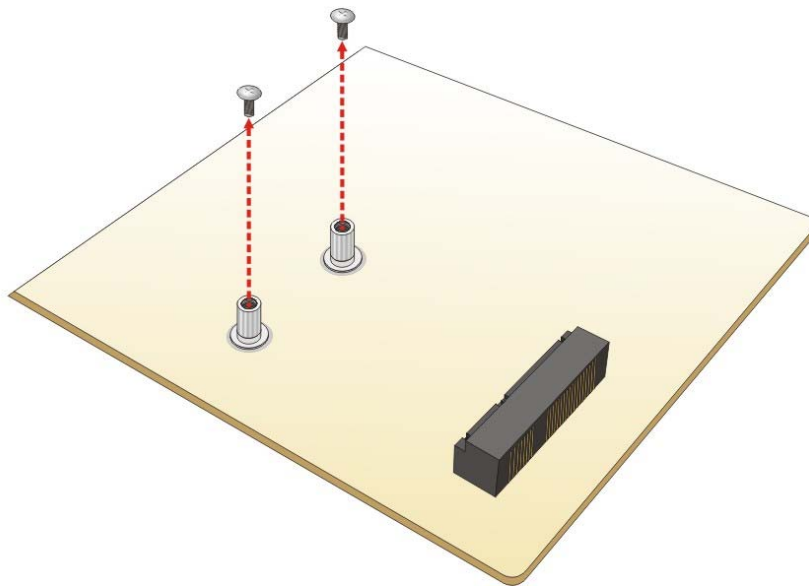

Figure 4-9: Removing the Retention Screws for the mSATA Module
Step 2: **Remove the retention screws.** Remove the two retention screws secured on the motherboard as shown in **Figure 4-9**.